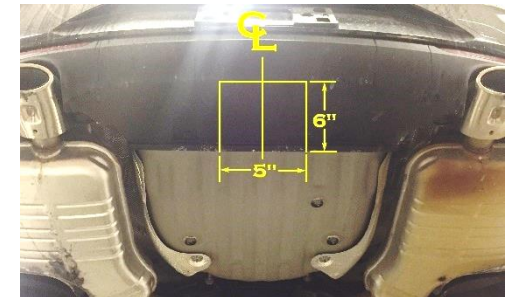

Figure 3
- Bottom fascia trimming** – locate the center of bottom fascia and trim 6" deep by 5" wide area, see **Figure 3**. Make additional trimming if needed.